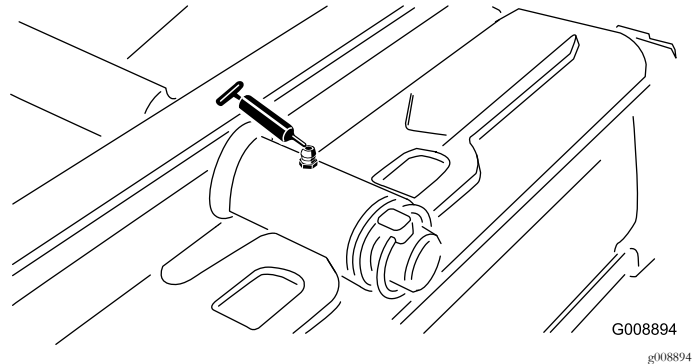

Figure 50
- Rear cutting unit pivot (Figure 50)